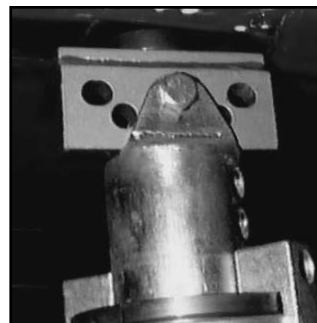

Figure 6
- b. When mounting to UAS base with clamp bar tube, position hold down bracket's vertical plate between clamp bar tube's ears aligning middle hole in vertical plate with holes in clamp bar tube's ears. Secure the assembly using 1/2 - 13NC x 2 bolt and 1/2 - 13NC nut. (See Figure 6.) Then raise vehicle to appropriate height and insert the stands' height adjustment pins. Then loosely attach UAS bases to mainframe using existing bolts and fastener plates.